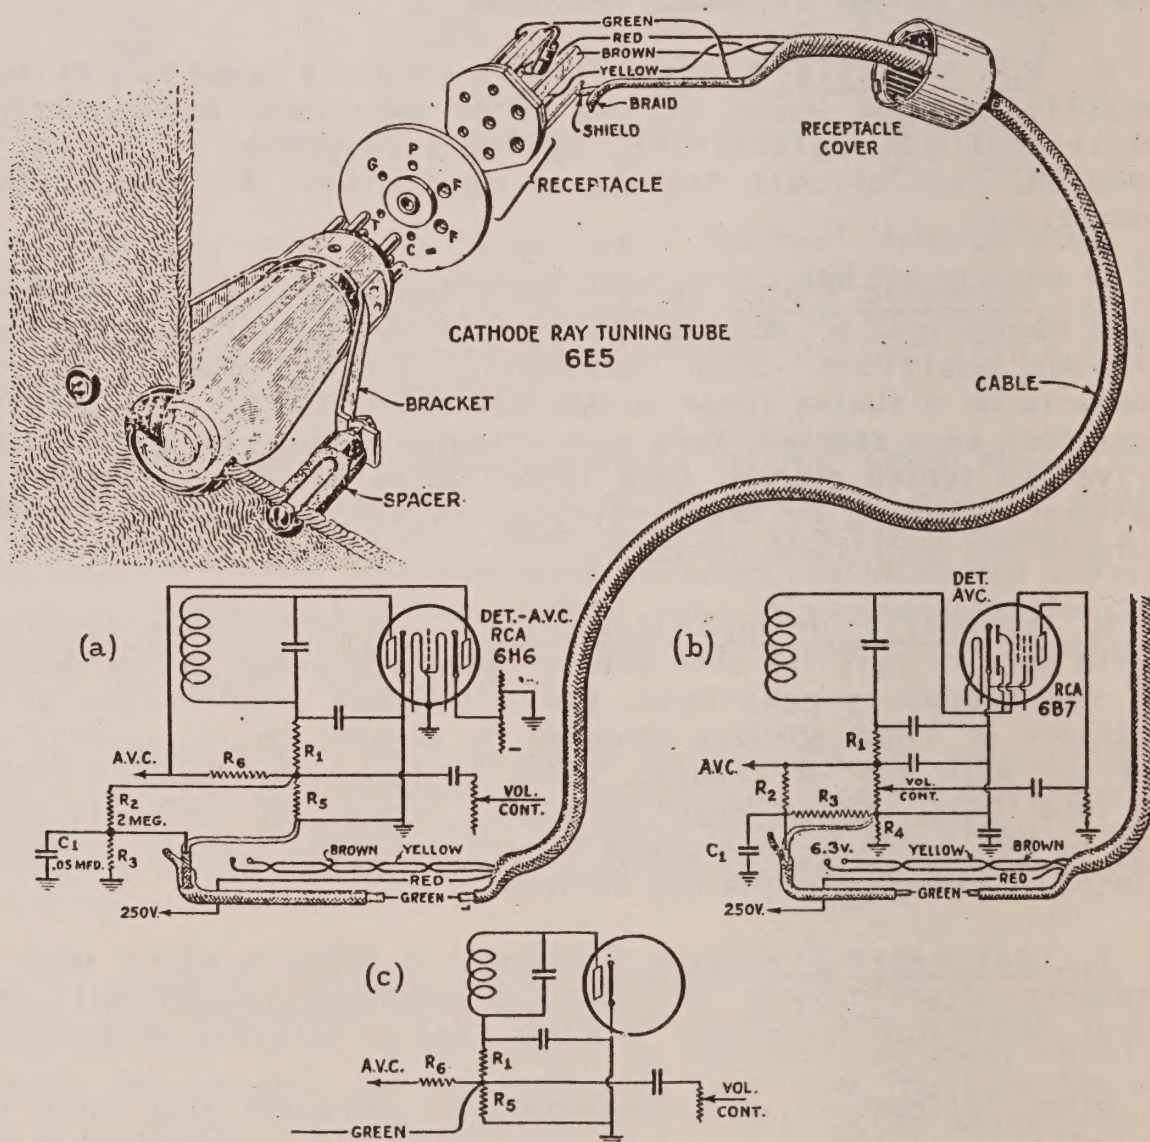

Figure 1—Cathode Ray Tuning Tube and Connections
- (1) The *brown* and *yellow* heater leads are soldered to any 6.3-volt filament supply, or to a separate 6.3-volt transformer when filament supply of receiver is 2.5 volts. (If a separate transformer is used, the center tap of the secondary winding, or one side of filament supply winding, must be grounded.)
- (2) The *red* lead is soldered to a convenient point of 200-250-volt plate supply (B) in i-f, a-f, or r-f circuits.
- (3) The *green* shielded lead is connected in AVC circuit, usually to the terminal of resistor (marked R-1—Figure 1 (c)) in the secondary circuit of the last i-f transformer. Auxiliary resistors and capacitor R-2, R-3 and C-1, when required, are connected to this lead, as shown in the diagrams (a) and (b), Figure 1. An "overlapping deflection" when tuned to a station means that the circuit illus-
trated in (a) or (b), Figure 1, is required.